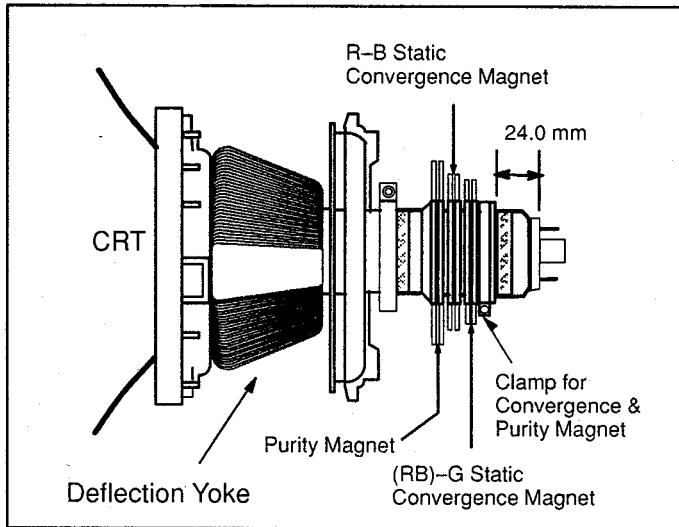

Fig. 24
7. Loosen the clamp screw for the deflection yoke A in Fig. 24 and move the deflection yoke as close to the purity magnet as possible.
11. Tighten the clamp screw A in Fig. 24.
7. Fix the deflection yoke by re-inserting the DY wedges. Refer to Fig. 24.